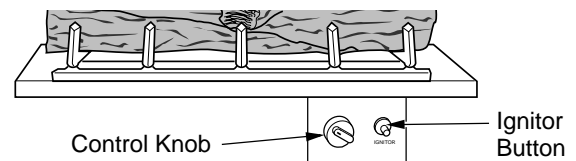

Figure 30 - Control Knob and Ignitor Button Location
3. Turn control knob clockwise  to the OFF position (see Figure 30).
4. Wait five (5) minutes to clear out any gas. Then smell for gas, including near the floor. If you smell gas, **STOP!** Follow "B" in the safety information, column 1. If you don't smell gas, go to the next step.
5. Slightly depress and turn control knob counterclockwise  to the PILOT position. Press in control knob for five (5) seconds (see Figure 30).